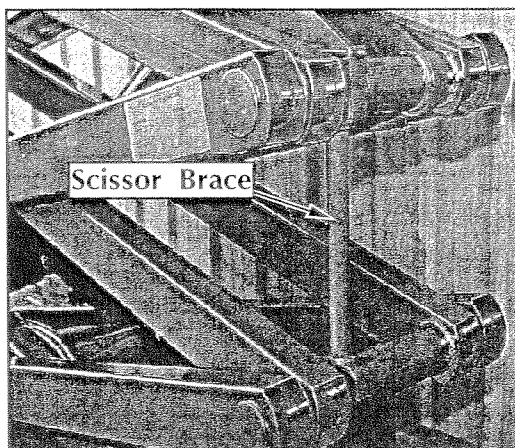

Figure 3-1: Blocking the Elevating Assembly
3.2 Blocking Elevating Assembly X20N, X20W, X26N (Figure 3-1)